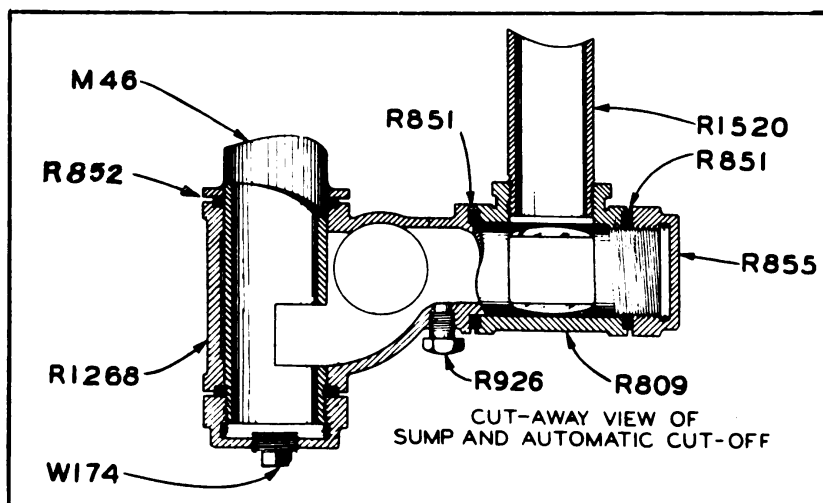

Fig. 34
**SPRAYBAR (Fig. 37)**—Screw a R1501 Spraybar Center Section into the side outlet of the R1267 R.H. and R1268 L.H. Spraybar Sumps. Slide an R852 Gasket onto the M46 Sleeve until it rests next to the collar (Fig. 34). The Sump and Center Section of the Spraybar are then slid onto the sleeve and an additional R852 Gasket placed at the bottom of the sump.
## FOLDING EXTENSION (Fig. 34)